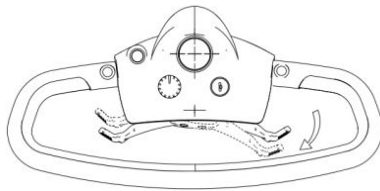

Figure 7.1
- To move forward, press the right side of the throttle lever downward. The greater the angle, the faster the scooter will go (Figure 7.1).